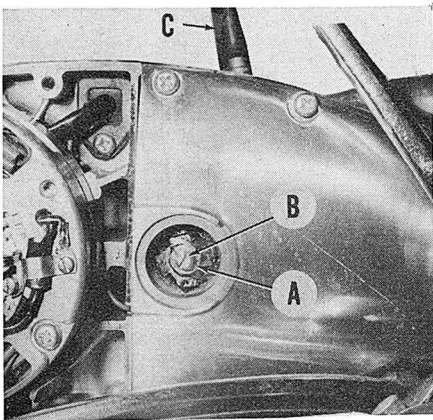

Fig. S7-8—After adjusting clutch cable to zero slack, turn adjuster (B) to obtain 5/32 inch free play in clutch lever pivot.
**CLUTCH CONTROLS.** Slide rubber cover (C—Fig. S7-8) up cable and turn adjuster until slack is just taken up in cable. Remove adjusting screw cover and loosen lock nut (A). Turn adjusting screw (B) to obtain  $\frac{5}{32}$  inch free play in clutch lever pivot. Make certain that lock nuts on adjusting screw and cable adjuster are tight.